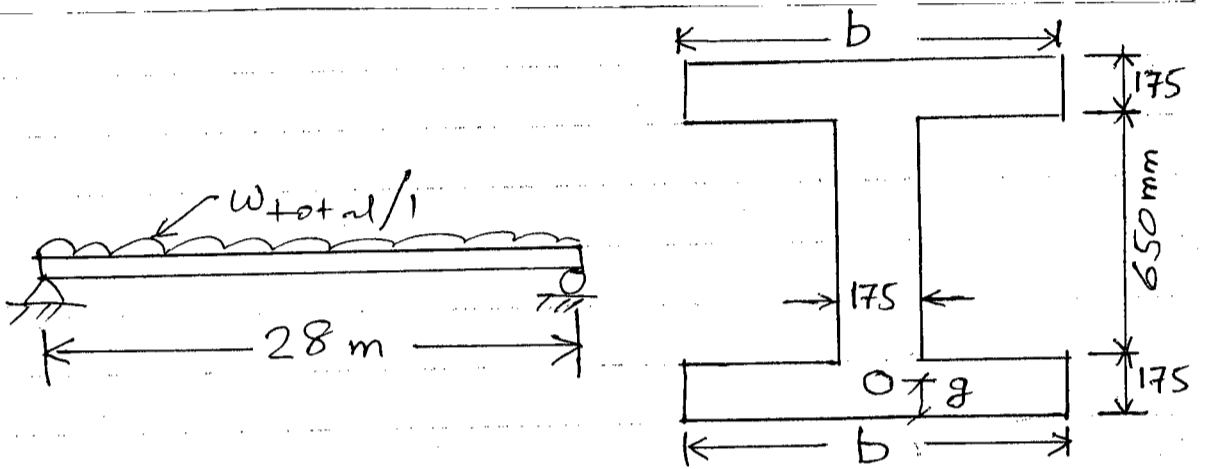

Fig. 1
1. Design a symmetrical I-shape section with $h = 1000$ mm for a simply supported beam (Fig. 1) carrying the following service loads: (a) Self weight, w_g , Super imposed Dead load, $w_D = 12$ kN/m and Live Load, $w_L = 5$ kN/m. Assume normal weight concrete with $f'_c = 42$ MPa, $f'_{ci} = 32$ MPa, and 12.7 mm diameter 1860 MPa Grade strands; $A_{ps} = 100$ mm²/strand, $f_{pu} = 1860$ MPa and transfer stress of $0.7 f_{pu}$. Loss = 20%. Use two stage prestressing if a lighter section results and consider no tension to be allowed in concrete. Second stage post-tensioned strands to be grouted for perfect bond. (23 $\frac{1}{3}$)